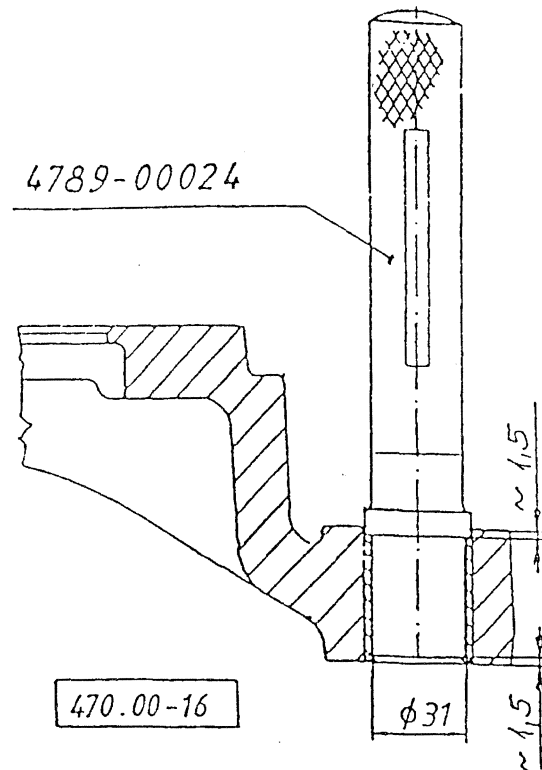

Fig. 1.: PRESSING THE BUSHING IN AND OUT
If the anchor pin bushing (13) are to be replaced, use the tool shown (Fig. 1.).